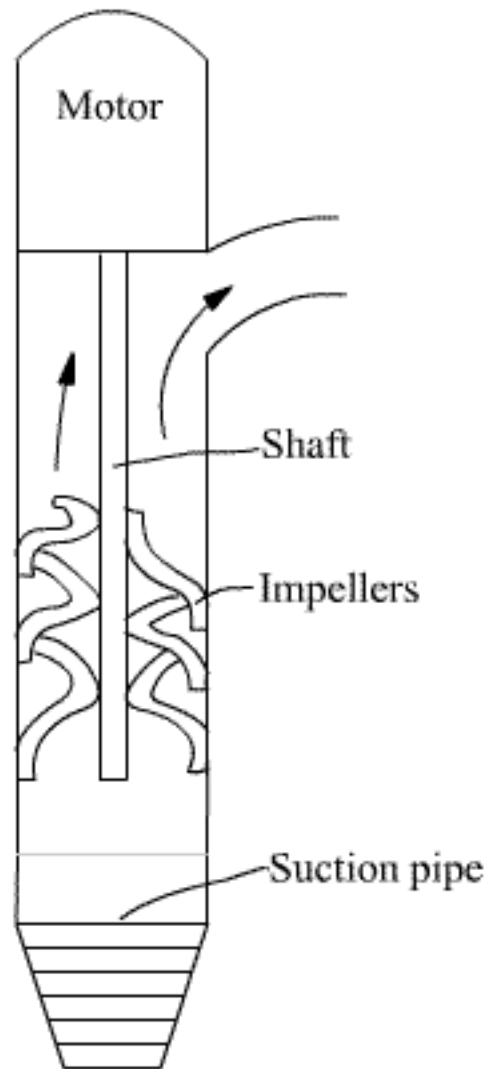

Figure 5.6. Turbine Pump.
3) Turbine Pumps: Have a vertical turbine located below groundwater level and a driver motor located higher up. A long shaft is required between the motor and the turbine. Figure 5.6 shows a schematic diagram of a turbine pump.